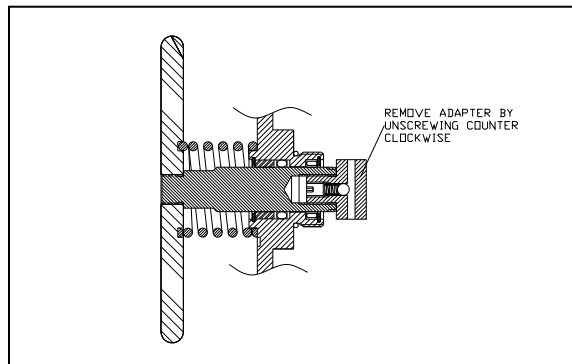

Figure 6
- 3.2.14 Remove the adapter (Part 9) by holding on to the diaphragm plate (Part 2) and unscrewing the adapter from the shaft (Part 6) (also see Figure 6).